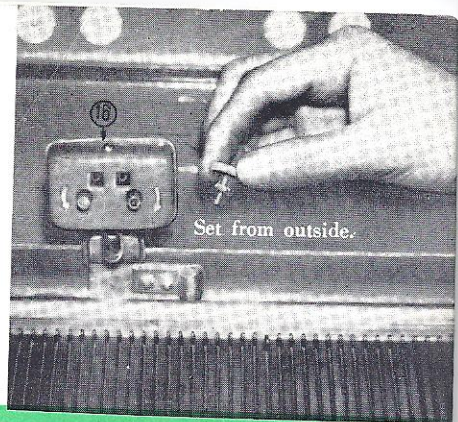

Fig. 4
2. Set the machine on the tables or desks using the Fixers ①. The Fixers are adjustable as you like.
3. Insert the Yarn Guide ⑱ into the Yarn Guide Holder ⑳, and set the Knitting Row Indicator ⑲ by its screw to the holder from the back-side. (Fig. 4)
When start knitting, turn away two dials toward arrow-indicated direction, and set the indicator to "00". (Fig. 4).